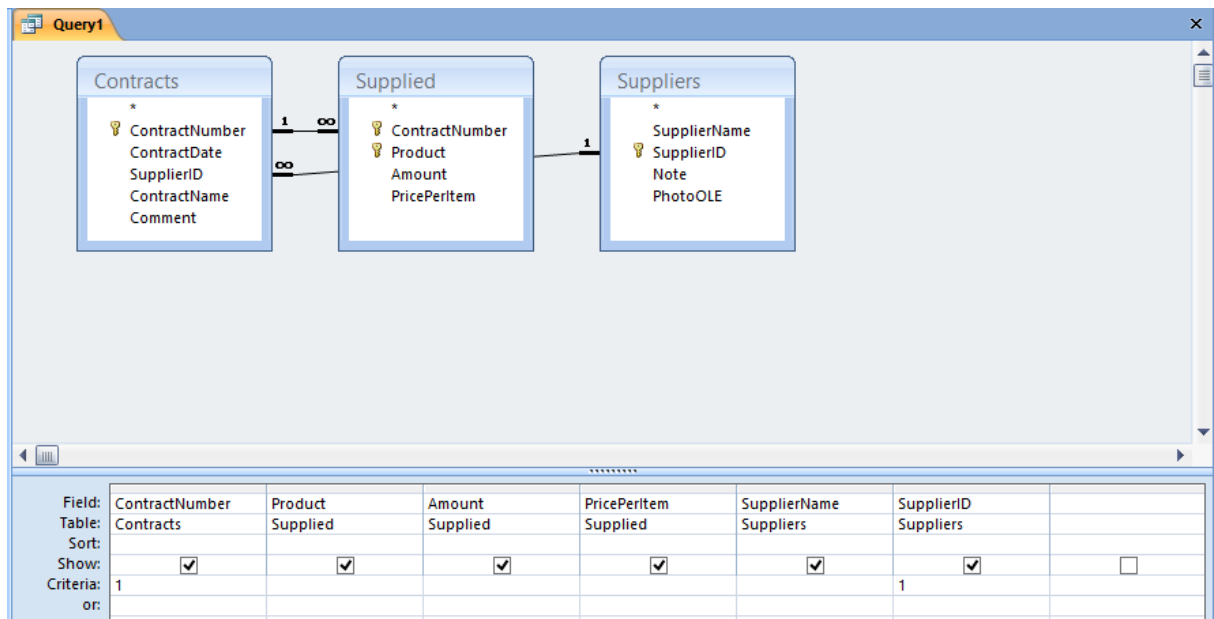

Figure 3.1
- 1) Open “Query Design” window and select “Contracts”, “Supplied”, and “Suppliers” tables (figure 3.1);
- 2) Add the following fields to the query (TableName.FieldName): Contracts.ContractNumber, Supplied.Product, Supplied.Amount, Supplied.PricePerItem, Suppliers.SupplierName, Suppliers.SupplierID (figure 3.1);
- 3) Set value 1 as the “Criteria” for the fields “ContractNumber” and “SupplierID” (figure 3.1);